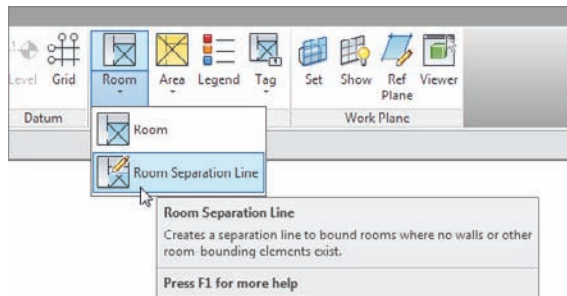

FIGURE 15.22 Click the Room Separation Line button on the Room & Area panel of the Home tab.
4. On the Room & Area tab of the Home tab, click Room > Room Separation Line, as shown in Figure 15.22.